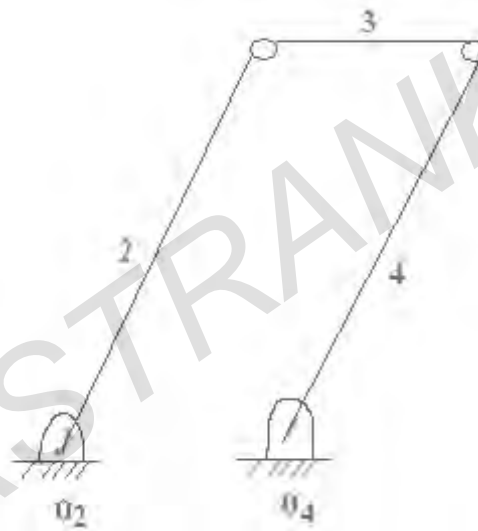

Figure 6
- (b) The figure 6 shows a parallel-bar linkage, in which opposite links have equal lengths. For this linkage, show that  $\omega_3$  is always zero and that  $\omega_4 = \omega_2$ . How would you describe the motion of link 4 with respect to link 2? [16]